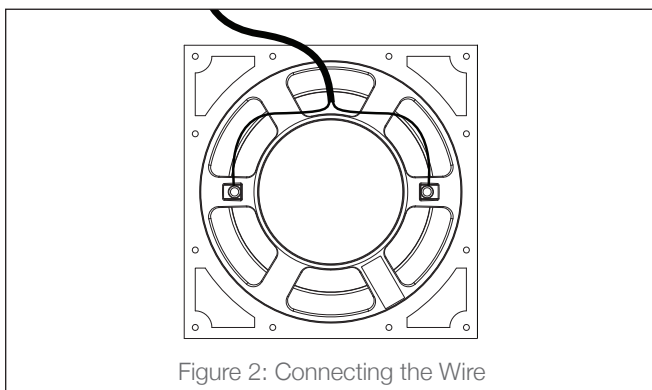

Figure 2: Connecting the Wire
2. Connect the internal speaker wire to the woofer driver. Connect the RED wire to the positive terminal and the BLACK wire to the negative terminal. If using multiple subwoofers it is critical that the polarity of all the woofers is the same (see Figure 2).